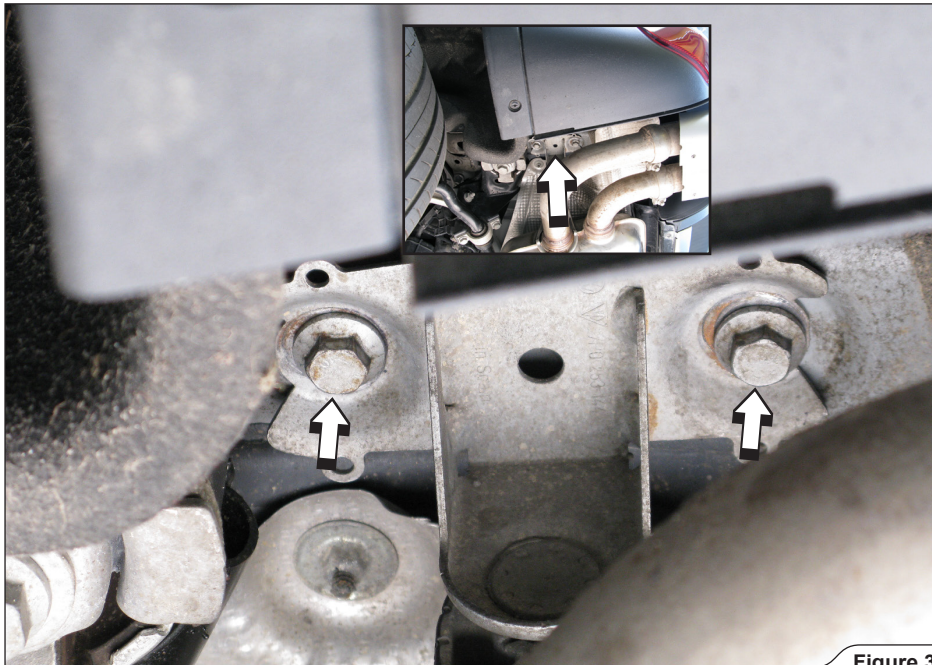

Figure 3
3. **For all models:** support the muffler, unscrew the marked bracket bolts on both sides and carefully remove the muffler off the vehicle (**Figure 3**).